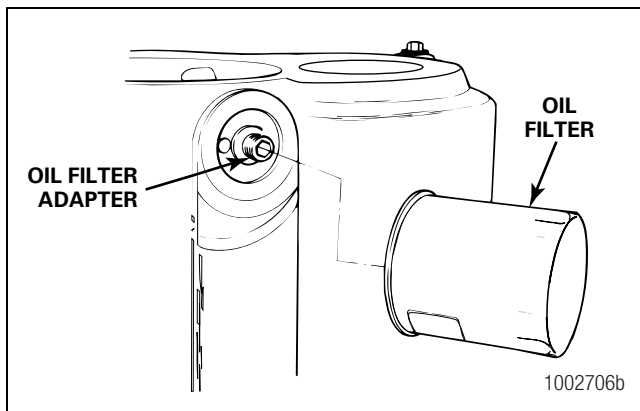

Figure 3.5
5. Use a filter strap wrench to remove the oil filter. Be careful that the oil inside does not spill when removing the filter. Discard the filter. Figure 3.5.